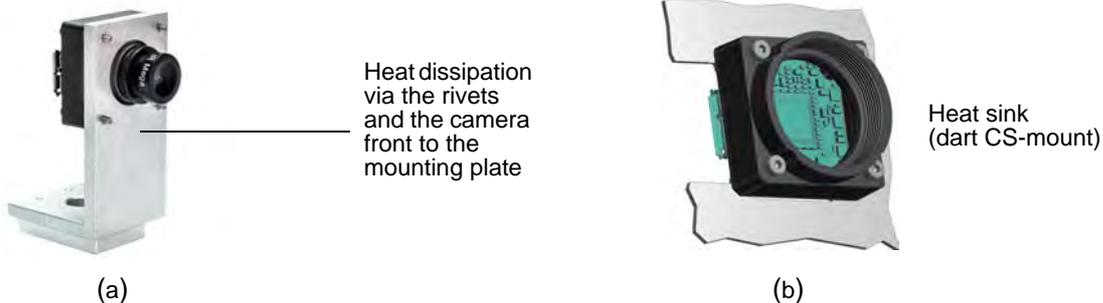

Fig. 17: Heat Sink Examples
- Figure 17 \(a\): The camera front touches a mounting plate. Heat dissipates via the rivets, the camera front and the mounting plate.
- Figure 17 \(b\): The camera rear side touches a mounting plate. Heat dissipates via the rivets and the mounting plate.